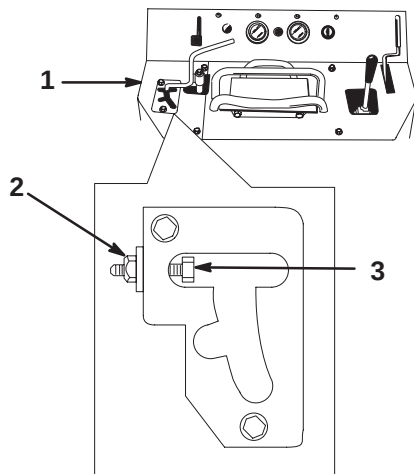

Figure 25
2. Remove the three bolts securing the left control panel cover and remove the cover (Fig. 25).
3. Loosen the jam nut on the adjustment bolt (Fig. 25).